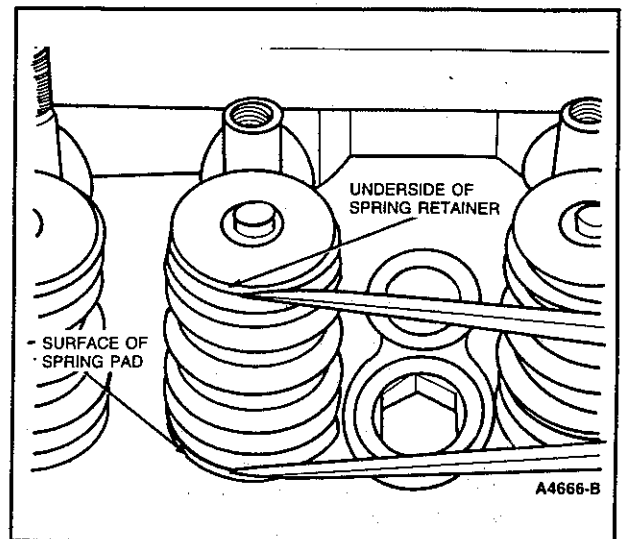

Figure 77 Checking Valve Spring Assembled Height
3. Measure the assembled height of the valve spring from the surface of the cylinder head spring pad to the underside of the spring retainer with dividers (Figure 77). Check the dividers against a scale. If the assembled height is greater than specifications, install the necessary 0.030 inch thick spacer(s) between the cylinder head spring pad and the valve spring to bring the assembled height to the recommended height.